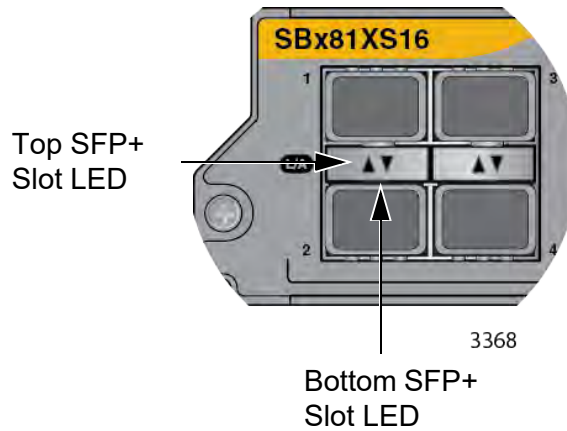

Figure 26. SFP+ Port LEDs on the AT-SBx81XS16 Line Card
**LEDs** The AT-SBx81XS16 Line Card has one LED for each SFP+ port. The LED is shown in Figure 26 and described in Table 12.